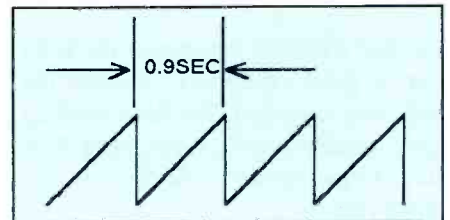

Figure 4. What is the frequency of this waveform?
10. What is the frequency of the waveform in Figure 4?